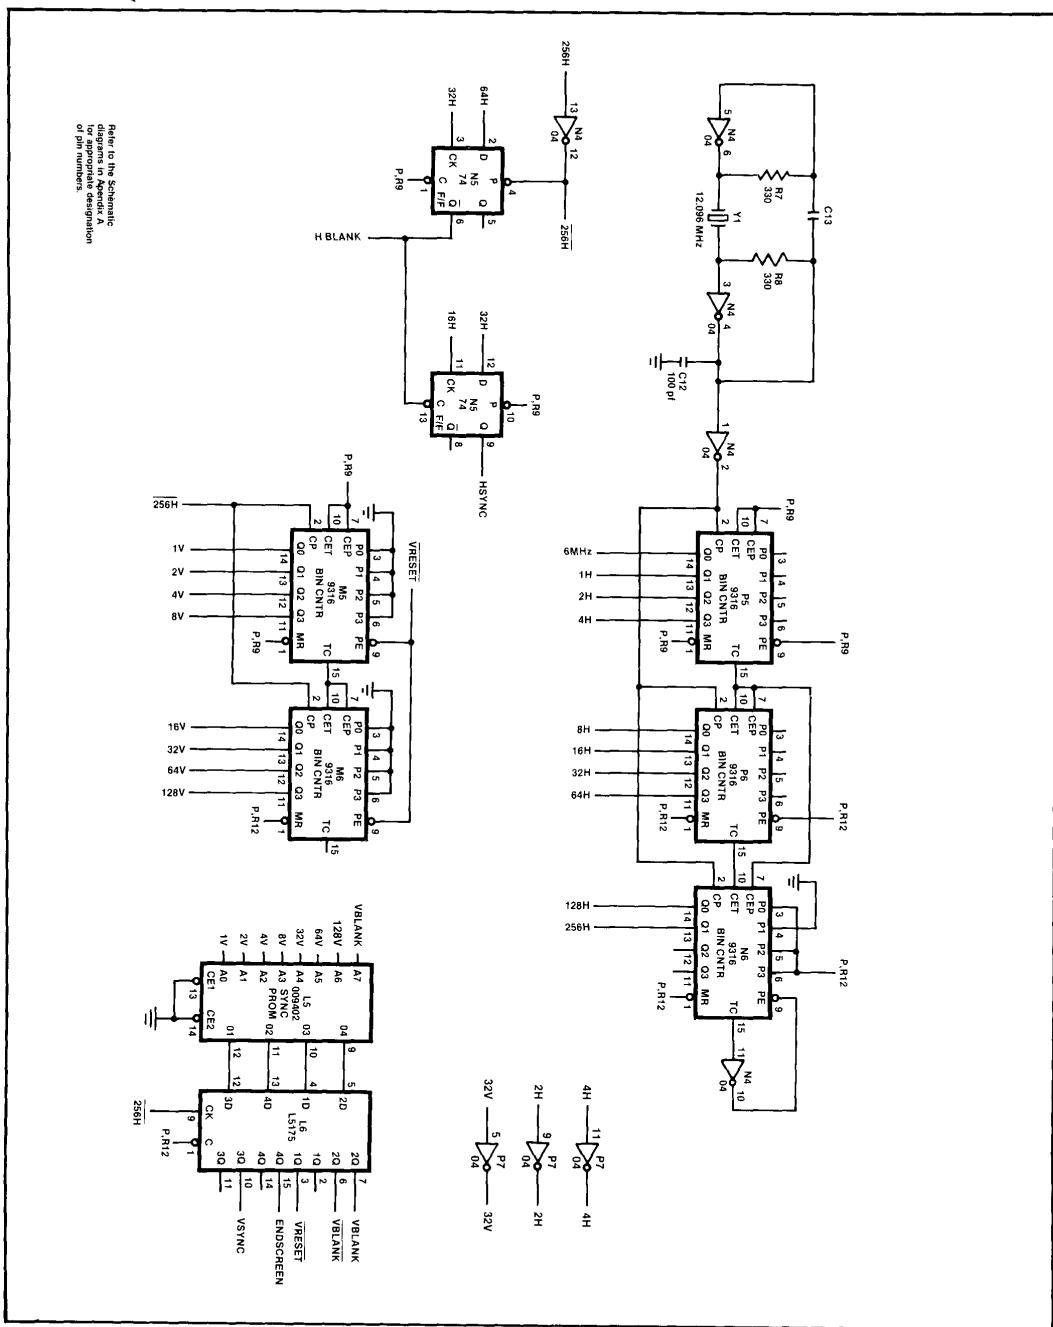

Figure 3-9 Sync Generator Schematic Diagram
D. SYNC GENERATOR (See Figure 3-9)
The base frequency of the sync generator is a 12.096-MHz clock, generated by a crystal-controlled oscillator consisting of crystal Y1, inverter N4 and several discrete components. The output of this oscillator is 12 MHz. Examination of this signal with an oscilloscope (at pin 2 of N4) should show the period (or cycle time) to be approximately 83 nanoseconds (.083 microseconds). See Figure 3-9.